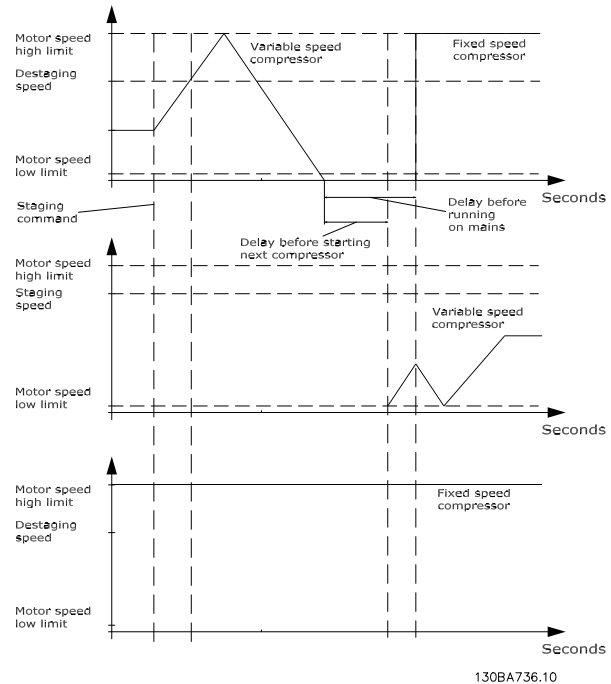

Figure 6.36 Slow Transfer Staging
Figure 6.36 is an example of the Slow transfer staging. The variable speed compressor (top graph) and one fixed speed compressor (bottom graph) are running before the staging command. When the [0] Slow transfer command is activated, an alternation is carried out by ramping the variable speed compressor to 4-13 *Motor Speed High Limit [RPM]* or 4-14 *Motor Speed High Limit [Hz]*, and then decelerated to zero speed. After a "Delay Before Starting Next Compressor" (25-58 *Run Next Compressor Delay*) the next lead compressor (middle graph) is accelerated and another original lead compressor (top graph) is added after the "Delay Before Running On Mains" (25-59 *Run on Mains Delay*) as a fixed speed compressor. The next lead compressor (middle graph) is decelerated to Motor Speed Low Limit and then allowed to vary speed to maintain system pressure.
0.5 sec*	[25-58 Run Next Compressor Delay – 5.0 sec] This parameter is only active if the option selected in 25-50 Lead Compressor Alternation , is different from [0] Off . This parameter sets the time between stopping the old variable speed compressor and starting another compressor as a new variable speed compressor. Refer to 25-56 Staging Mode at Alternation and Figure 6.36 for description of staging and alternation.
0.5 sec*	[25-58 Run Next Compressor Delay – 5.0 sec ] This parameter is only active if the option selected in 25-50 Lead Compressor Alternation , is different from [0] Off . This parameter sets the time between stopping the old variable speed compressor and starting this compressor as a new fixed speed compressor. Refer to 25-56 Staging Mode at Alternation and Figure 6.36 for description of staging and alternation.